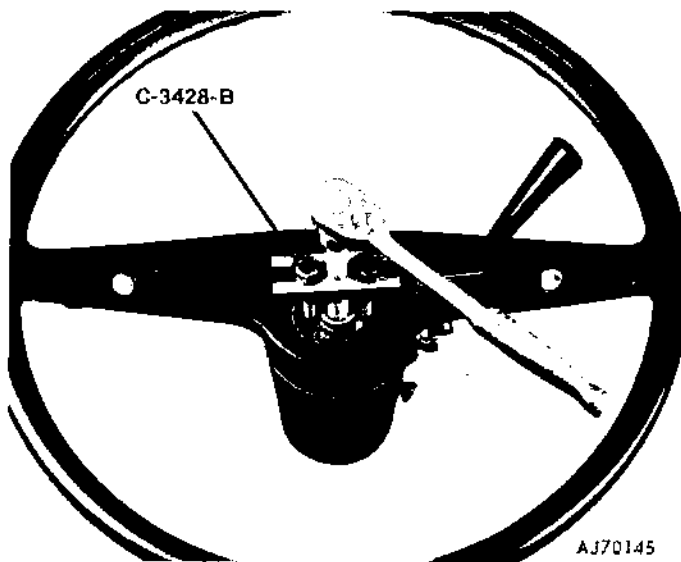

Fig. 11-2 Steering Wheel Removal
- (1) Disconnect battery negative cable.
- (2) Place front wheels in straight-ahead position.
- (3) Remove steering wheel spoke horn cover attaching screws from underside of steering wheel spoke and remove horn cover.
- (4) Disconnect horn wire from switch in steering wheel cavity by gently pulling and wiggling quick-disconnect connector.
- (5) Remove steering wheel nut and connector.
- (6) Scribe a mark on steering wheel and steering shaft to facilitate installation.
- (7) Install Puller J-25115 (fig. 11-2).
- (8) Remove steering wheel.